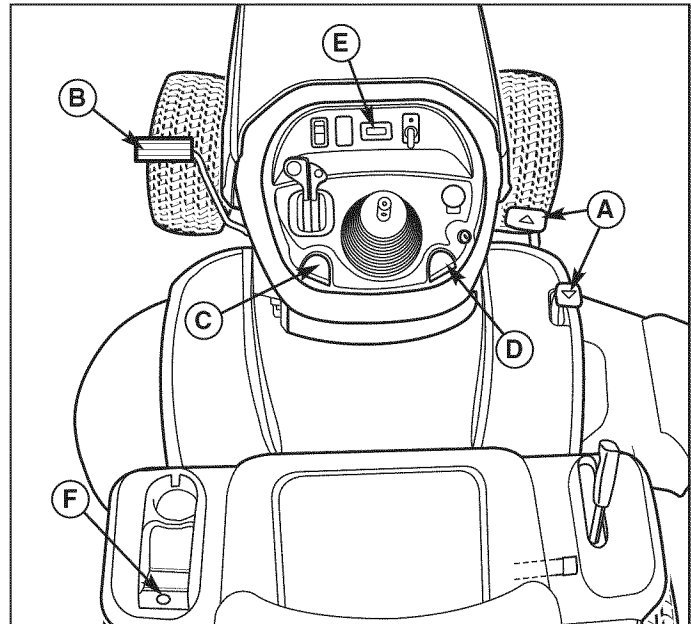

Figure 2. Engaging the Parking Brake
Applying the Parking Brake - See Figure 2. To lock the parking brake, release the ground speed pedals (A), fully depress the brake pedal (B), pull UP on the parking brake knob (C), and then release brake pedal.
Releasing the Parking Brake - See Figure 2. To release the parking brake, depress the brake pedal (B).
1. Pull up on the cruise control knob (D, Figure 2).
2. Depress the forward ground speed pedal (A).
3. Lift up the Cruise control knob (D) when desired speed is reached. The Cruise will lock in one of its five locking positions.
The hour meter (E, Figure 2) measures the number of hours the key has been in the RUN position.
The 12-volt accessory plug is located in the left side pod (D, Figure 2). It can be used to power small electronic devices. The accessory must be rated at 9 amps or less.